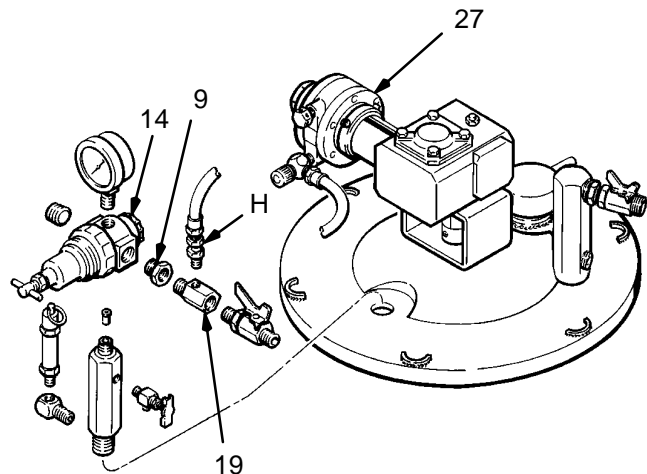

**Fig. 2**
Connect an air supply hose (A) between the 3/8 npt(m) air inlet valve (20) and your air supply (B). Refer to Fig. 2 on page 4. Install an air filter (D) upstream from the air inlet valve to remove dirt and moisture from your compressed air supply.
Connect an air atomizing hose (G) between the 1/4 npt ball valve (36) of the atomizing air regulator (31) and the air inlet of your gun (F). See Fig. 2, Dual Air Regulator Models.
1. Plumb the atomizing air to the gun off the main air supply line (B), upstream from the hose connections to the tank. See Fig. 2, Single Air Regulated Model.
3. Use the tank regulator to control both the tank and the atomizing air pressure. Remove a plug from the regulator (14) and connect an air valve and atomizing hose to the 1/2 npt(f) port on the regulator. Refer to the parts drawing, page 8.
**NOTE:** Use an air adjusting valve (C) to adjust the atomizing air at the gun. See Fig. 2, Single Air Regulated Model.